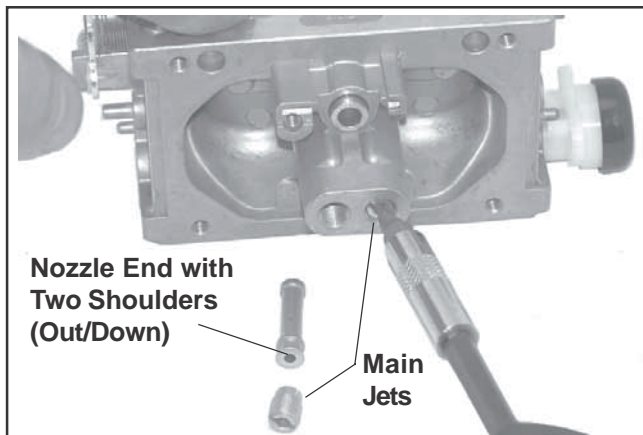

Figure 5-23. Installing Main Nozzles and Main Jets.
8. Install the two main nozzles into the towers of the carburetor body. The end of the main nozzles with the two raised shoulders should be out/down (adjacent to the main jets). Make sure the nozzles are completely bottomed. Carefully install the main jets into the towers of the carburetor body on the appropriate side, as identified when removal was performed. See Figure 5-23.